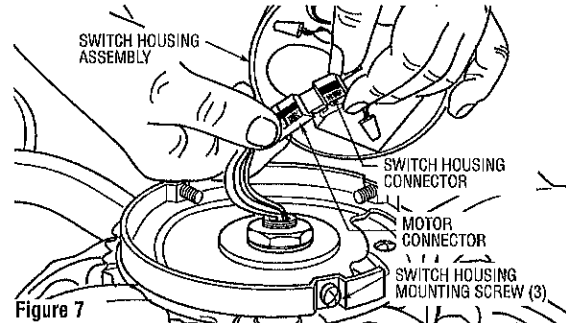
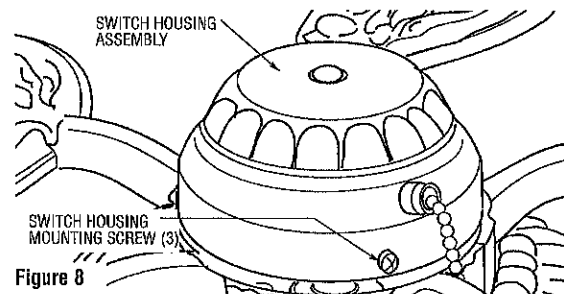

Figure 7
Figure 8
- ☐ 12. Engage the connector of the switch housing assembly with the motor connector (Figure 7). The two connectors are keyed and color-coded and must be mated correctly (color-to-color) before they can be engaged. Make sure the connector latch closes properly.
- ☐ 13. Remove the three switch housing mounting screws (Figure 7) from the switch housing plate. Position the switch housing assembly on the switch housing plate and align the holes in the switch housing assembly with the holes in the plate. Secure the switch housing assembly by installing the three mounting screws (Figure 8).